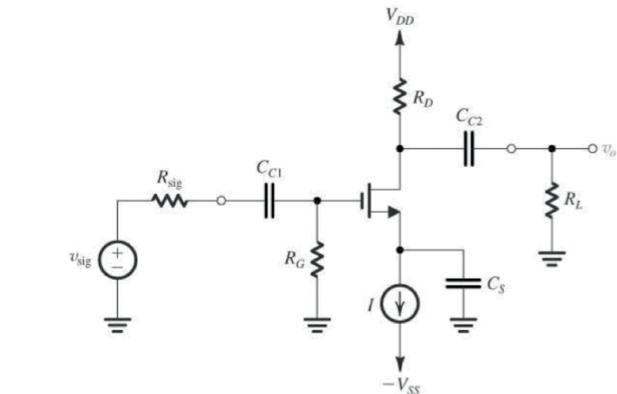

Figure 6: Common source amplifier
One typical MOSFET application is the common source amplifier seen in Figures 6 and 7. The input signal is applied to the gate through the coupling capacitor C_1 . The output signal of the outline in Figure 6 (voltage on R_L) is on the drain pin of the MOSFET and connected to the load through C_2 . Capacitors C_1 , C_2 and C_s are coupling capacitors and can be considered short circuits for the signals in the centre-band frequencies; the source pin (S) is therefore connected to ground for all analog input signals. Resistors R_1 , R_2 , R_D and R_s form a bias network.